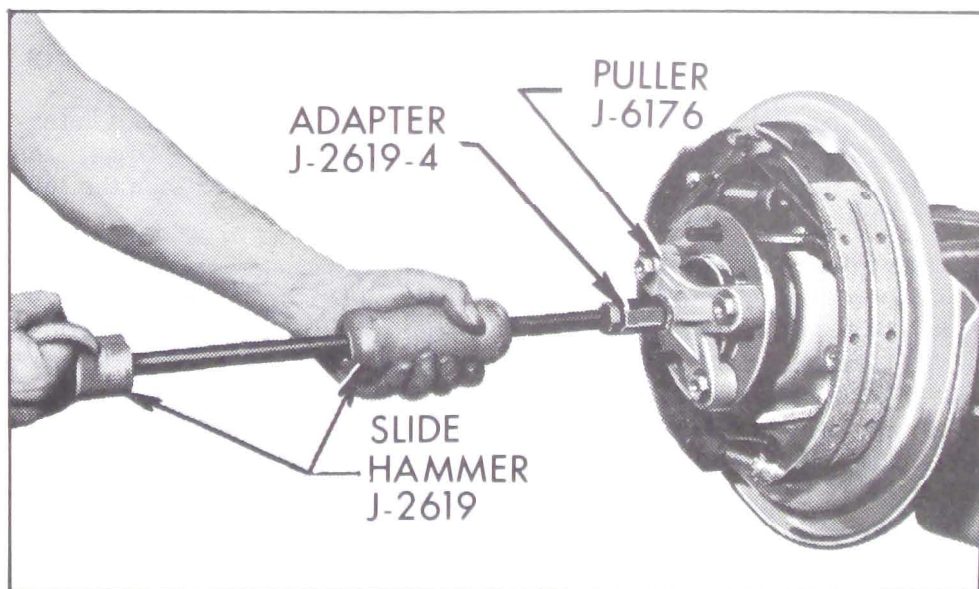

Fig. 6-48—Removing Rear Axle Shaft
4. Pull out axle shaft assembly using Puller J-6176 with a slide hammer. See Figure 6-48. CAUTION: While pulling axle shaft out through seal, support shaft carefully in center of seal to avoid cutting seal lip.